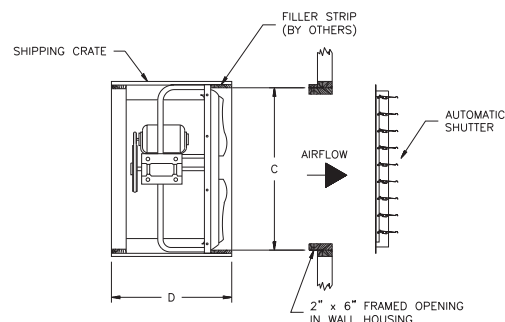

Figure 7
- To install to inside of building wall using the shipping crate as a mounting frame, see Figure 7.
14. Provide a square opening in the wall of the building equal to the inside "C" dimension of the fan crate, see Figure 8. It is preferable to frame in the opening with 2 x 6 material, see Figure 7.